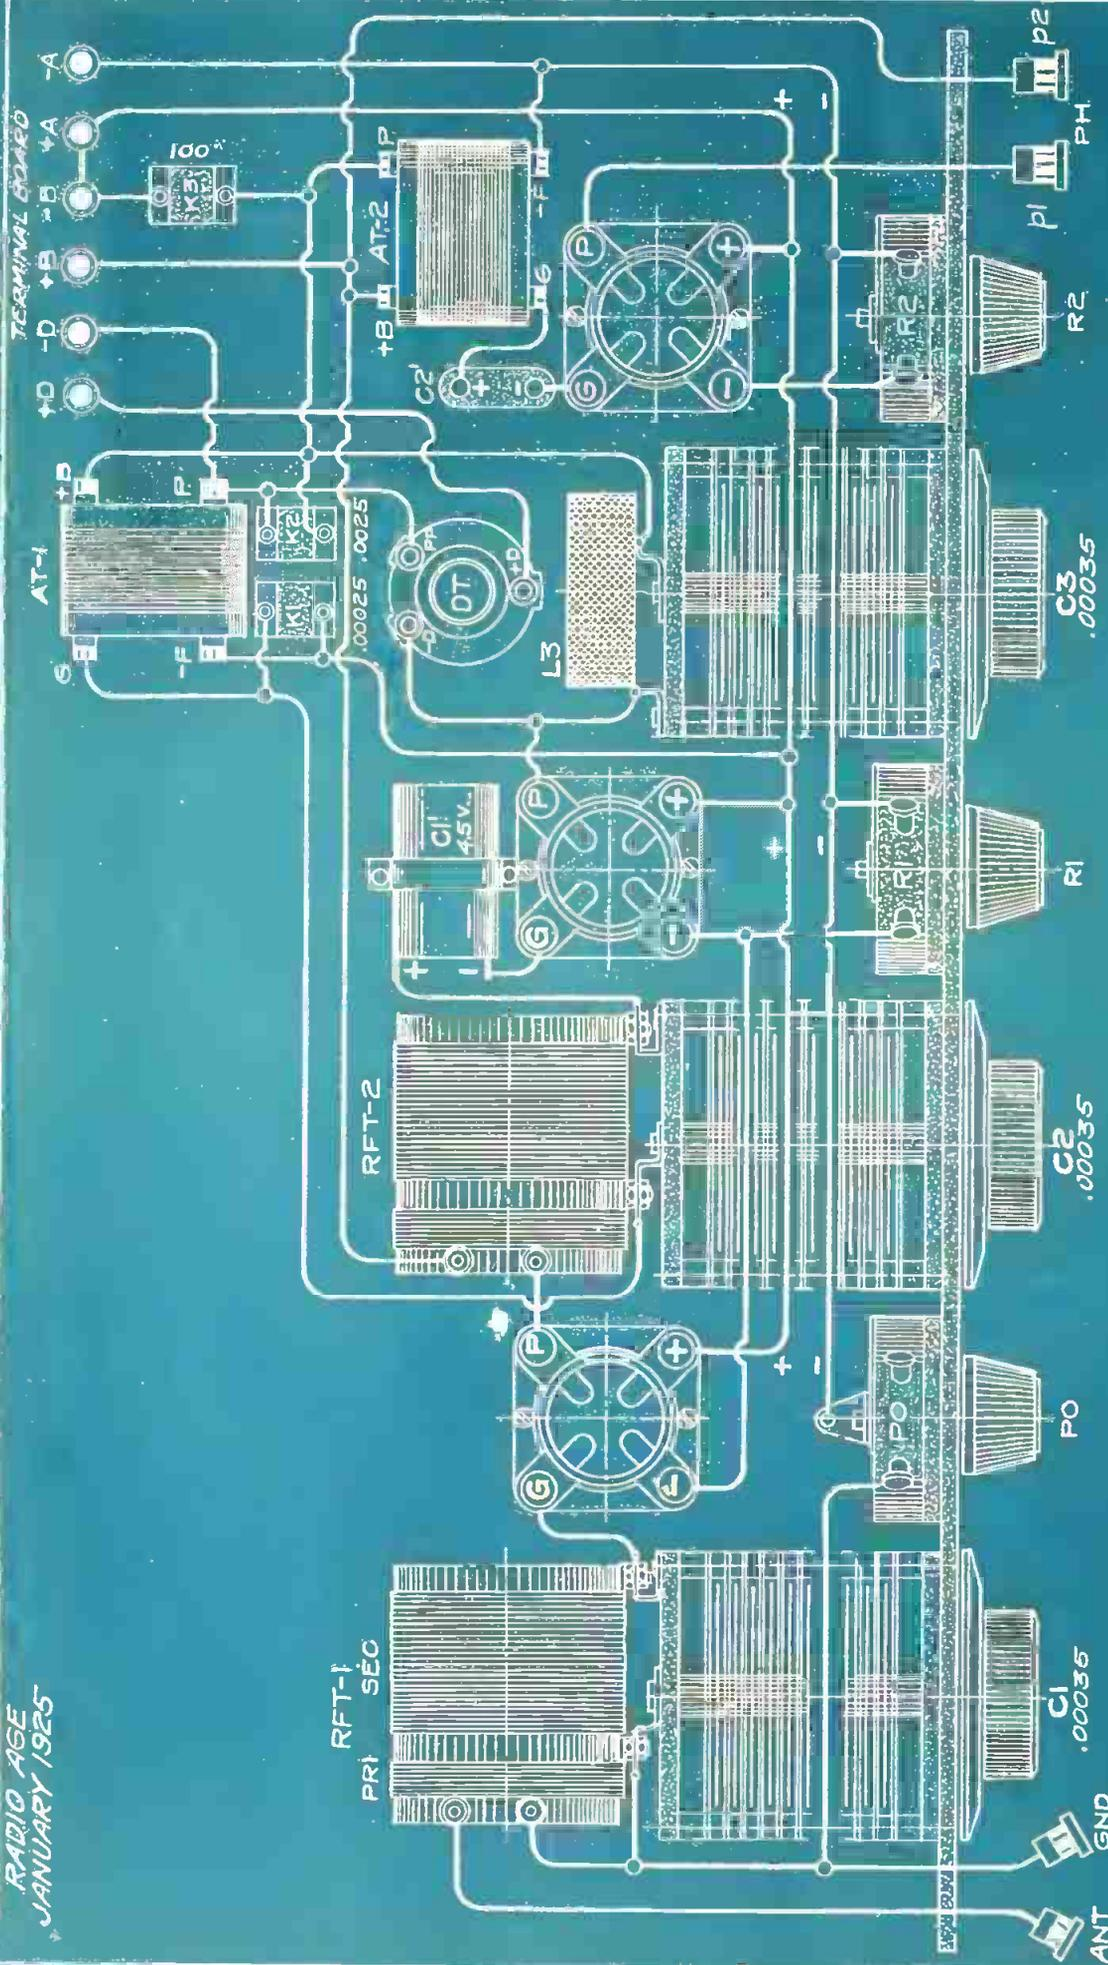
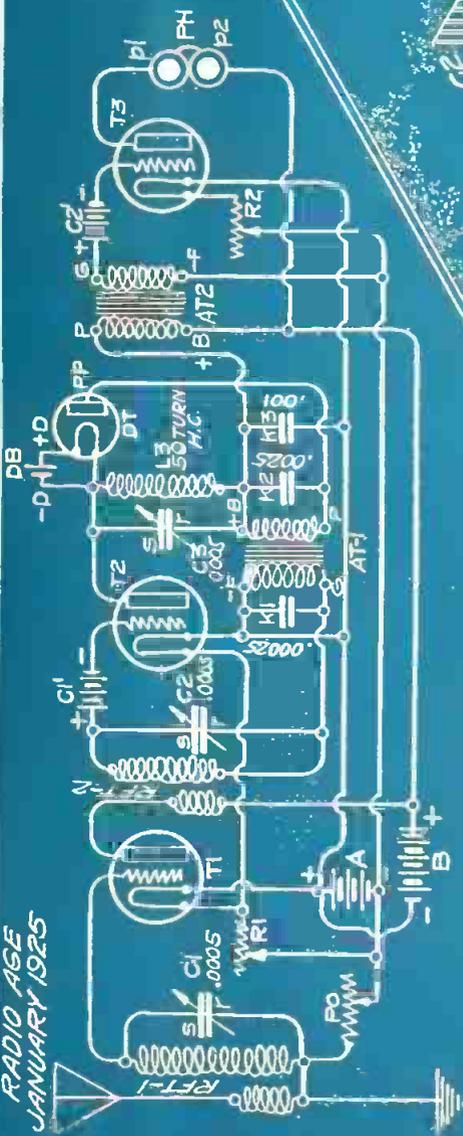
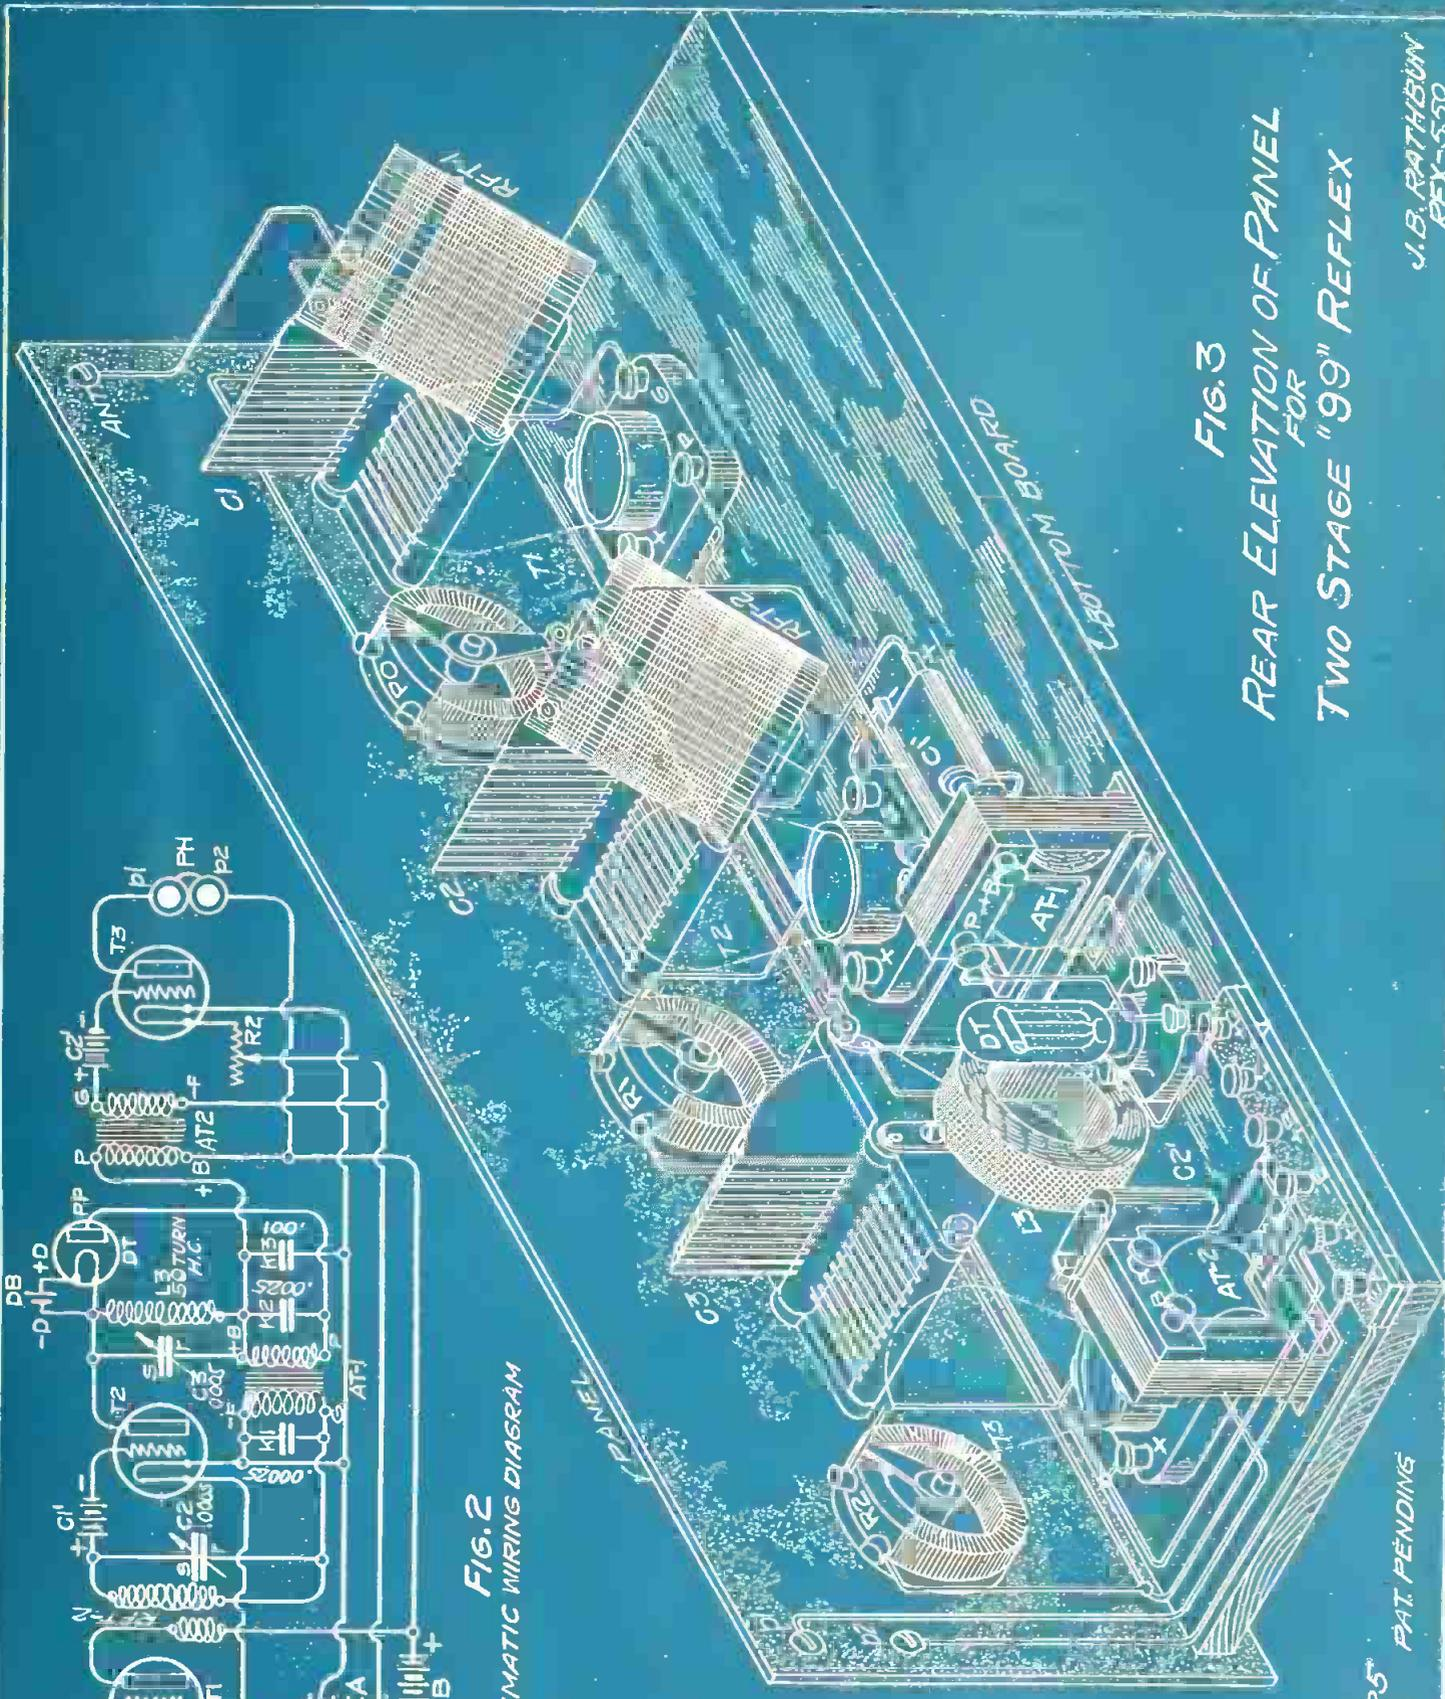

Fig. 1
FIG. 2
FIG. 3
FIGS. 1-2 show the circuit of the three tube "99" Reflex, Fig 1 being a picture diagram while Fig. 2 is a conventional diagram with the various parts denoted by symbols, the latter being of use to the more experienced builder who wishes to trace out the functioning of the circuit. Fig 3 is an isometric view showing the appearance from the back of the panel and the general arrangement of the apparatus, but should not be used exclusively for hooking up the set as several of the wires are concealed behind the various units.
On examining Fig. 1 or Fig. 2 we see that two common air core radio transformers or "neutroformers" (RFT-1) and (RFT-2) are used for coupling the R. F. stages. They are preferably tuned by the 17 plate (0.00035 mf) condensers (C1) and (C2) of the vernier type.
Fig. 1 is a "picture diagram" of the circuit arranged for the use of the beginner. In Fig. 2 is a schematic diagram by which the action of the circuit can be more easily traced out by those experienced in handling symbolic diagrams. In the following description we will refer, therefore, particularly to Fig. 2, although all three views bear the same reference numbers and figures. By this system of lettering, the novice can trace back and forth between the two diagrams and thus become acquainted with the conventional symbols which mean so much to the experienced radio man.
In the present "tuned plate" regenerative, the feedback is "capacitive"; that is, the plate current is fed into the grid circuit through the internal capacity of the tube, control being had by means of the variable inductance or variometer (VA.) It will be seen from Fig. 2 that the grid (G) and the plate (P) are like the plates of a condenser in regard to
NOW we will get down to the practical description and give specific instructions for the building of this receiver. We can now include the picture diagram, Fig. 1, and the isometric view of Fig. 3, which shows the general arrangement of the apparatus behind the panel. With the exception of the aperiodic coupler (L1-L2) all of the apparatus is standard. There is nothing at all critical about the set and even the inexperienced need not hesitate. For those experimenters who have built the Baby Heterodyne II, I will say that the same tuner, variometer and condenser can be used for building this circuit, and several of our readers have already done this successfully. The aperiodic coupler has been described many times in these columns, but for the benefit of the newcomers, I will repeat these specifications.
Two cases of error were corrected for readers who misunderstood the purpose of showing a part of the circuit in dotted lines (Fig. 2), they assuming that the dotted lines indicated that these wires could be used or omitted at pleasure. All lines whether solid or dotted must be used in the circuit. I showed certain